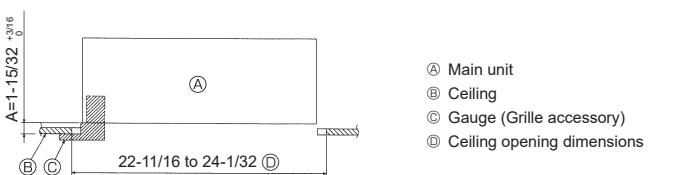

Fig. 4-6
- When the main unit can not be aligned against the mounting hole on the ceiling, it is adjustable to a slot provided on the mounting plate. (Fig. 4-6)